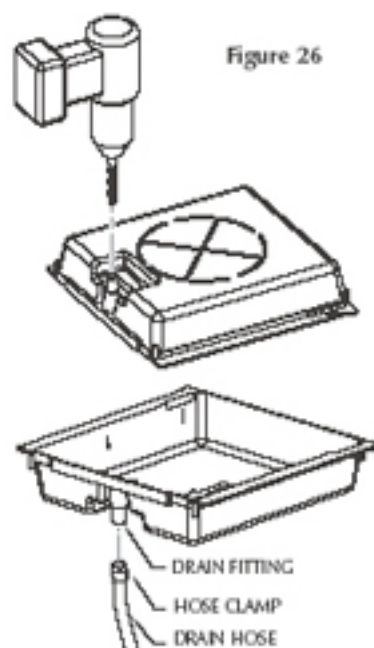

Figure 26
3. Referring to figure 26, first drill a small hole ($\frac{1}{8}$ " dia) centered from the bottom of the drain fitting up through the pan.